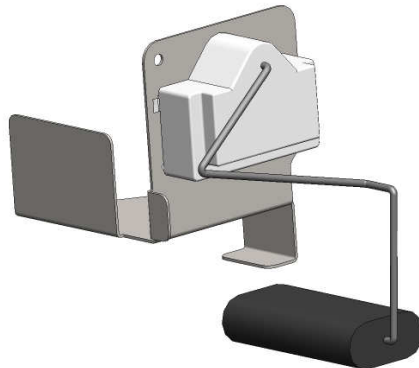

FIGURE 1-2
- 1-6. From the old OEM fuel tank, remove the rubber grommet for the fill-neck, the fuel level sender and wiring harness, the vent valve and vent grommet. Inspect all parts for damage, if none found, reinstall in the new Aeromotive tank. If any of the OEM components are damaged replacement parts are available through your local Ford dealer or auto parts store. Use **FIGURE 1-2** to install the factory fuel level sender onto the provided mounting bracket.